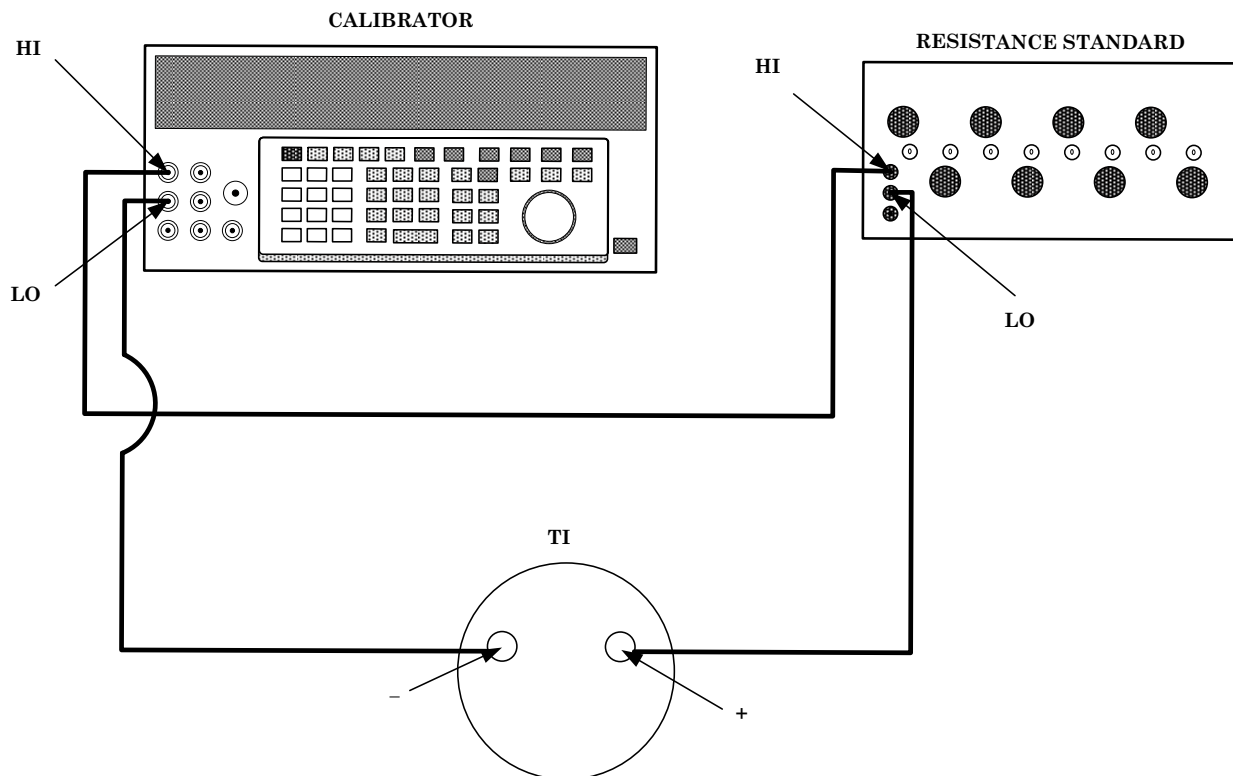

Figure 1. Pyrometer electrical test - equipment setup.
- (1) Connect equipment as shown in figure 1.